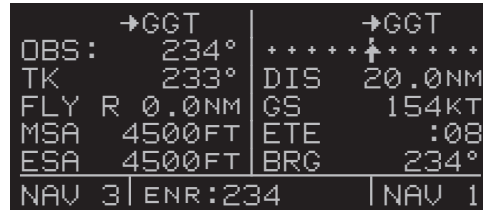

Figure 5-114
- a. Select the NAV 3, MODE or Super NAV 5 page (figure 5-114).